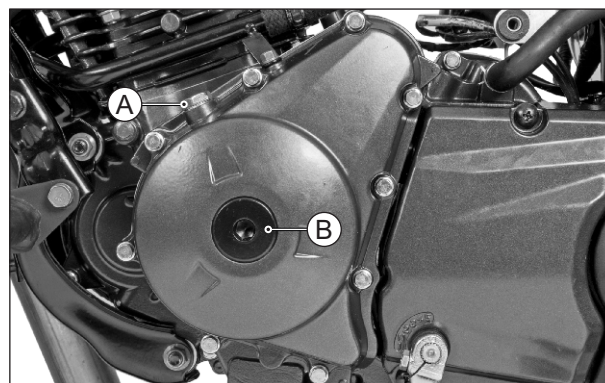

Fig. 2.53
- Remove plug TDC (A) along with the gasket. (Fig. 2.53)